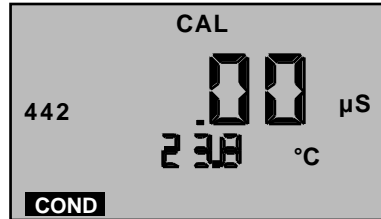

Figure 5
c. Press **COND** or **TDS**, then press **CAL MCLR**, “**CAL**” icon will appear on the display (see Figure 5).